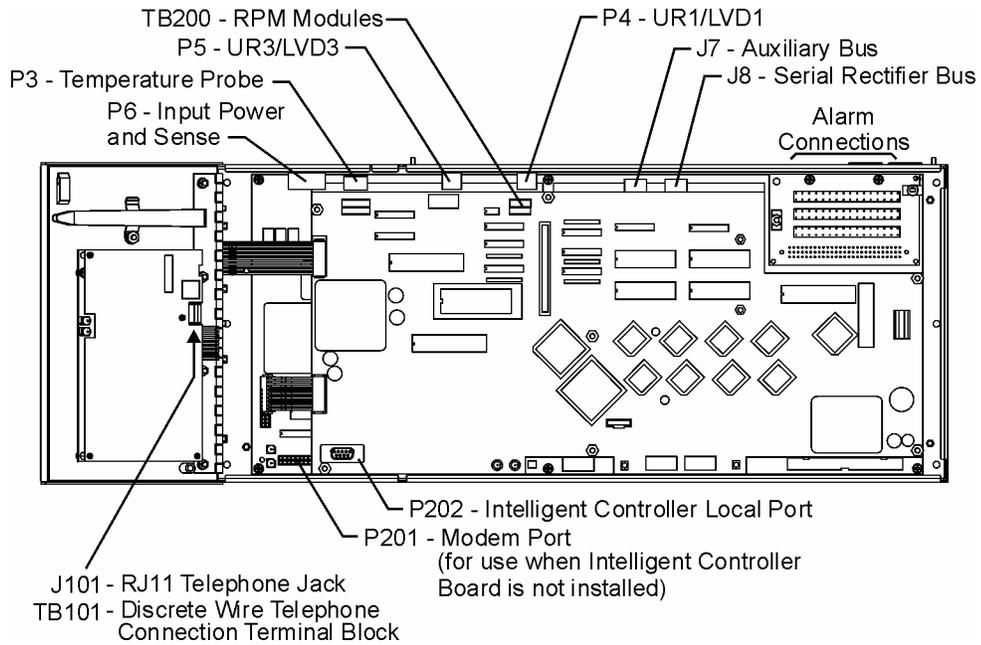

Figure 6-10: Millennium Controller Connections
a.	Next, locate P6 and the Input Power, Shunt and Regulation cable at the upper left hand corner of the basic (BSH) controller. (see Figure 6-10)
a.	On the Basic controller (BSH), locate the BSL alarm block. It is located in the upper right hand corner of the BSH board. (see Figure 6-10)
a.	On the Intelligent controller (BSJ), locate TB200. It is located at the top of the BSJ board. (see Figure 6-10)
a.	On the Basic controller (BSH), locate P3. It is located at the upper left hand corner of the BSH board, and is white connector. (see Figure 6-10)
a.	On the Intelligent controller (BSJ), locate P201. It is located on the left hand side of the BSJ board. (see Figure 6-10)
a.	On the Intelligent controller (BSJ), locate P202. It is located at the bottom of the BSJ board. (see Figure 6-10)
a.	On the Intelligent controller (BSJ), locate P203. It is located at the top of the BSJ board. (see Figure 6-10)
c.	On the Intelligent controller (BSJ), locate TB201. It is located at the top of the BSJ board. (see Figure 6-10)